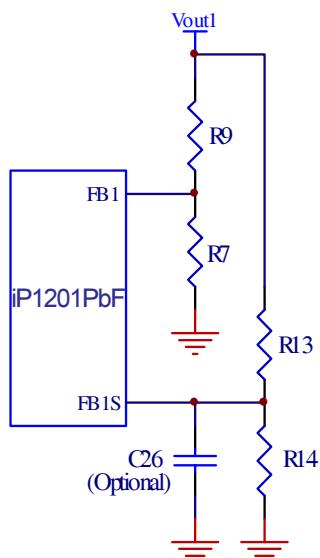

Fig. 19: Typical scheme for output voltage setting
Both outputs of the iP1201PbF will shut down if either one of the outputs experiences a voltage in the range of 115% of V_{OUT} . The overvoltage sense pins FB1s and FB2s are connected to the output through voltage dividers, R_{13} and R_{14} (Fig. 19), and the trip setpoints are programmed according to equation (1). Separate overvoltage sense pins FB1s and FB2s are provided to protect the power supply output if for some reason the main feedback loop is lost (for instance, loss of feedback resistors). If this redundancy is not required and if Type II control loop compensation scheme is utilized, FB1s and FB2s pins can be connected to FB1 and FB2 pins respectively. An optional 100pF capacitor (C26) is used for delay and filtering purposes.
When selecting output capacitors, it is important to consider the overshoot performance of the power supply. If the amount of capacitance is not adequate, then, when unloading the output, the magnitude of the overshoot due to stored inductor energy, and depending on the speed of the response of the control loop, can exceed the overvoltage trip threshold of the iP1201PbF and can cause undesirable shutdown of the output. The magnitude of the overshoot should be kept below $1.125V_{OUT}$. To prevent the overshoot from tripping the output a delay can be added by installing capacitor C26 as shown in Fig.19.
From Fig.19 the transfer function $H(s)$ of the error amplifier is given by (9):